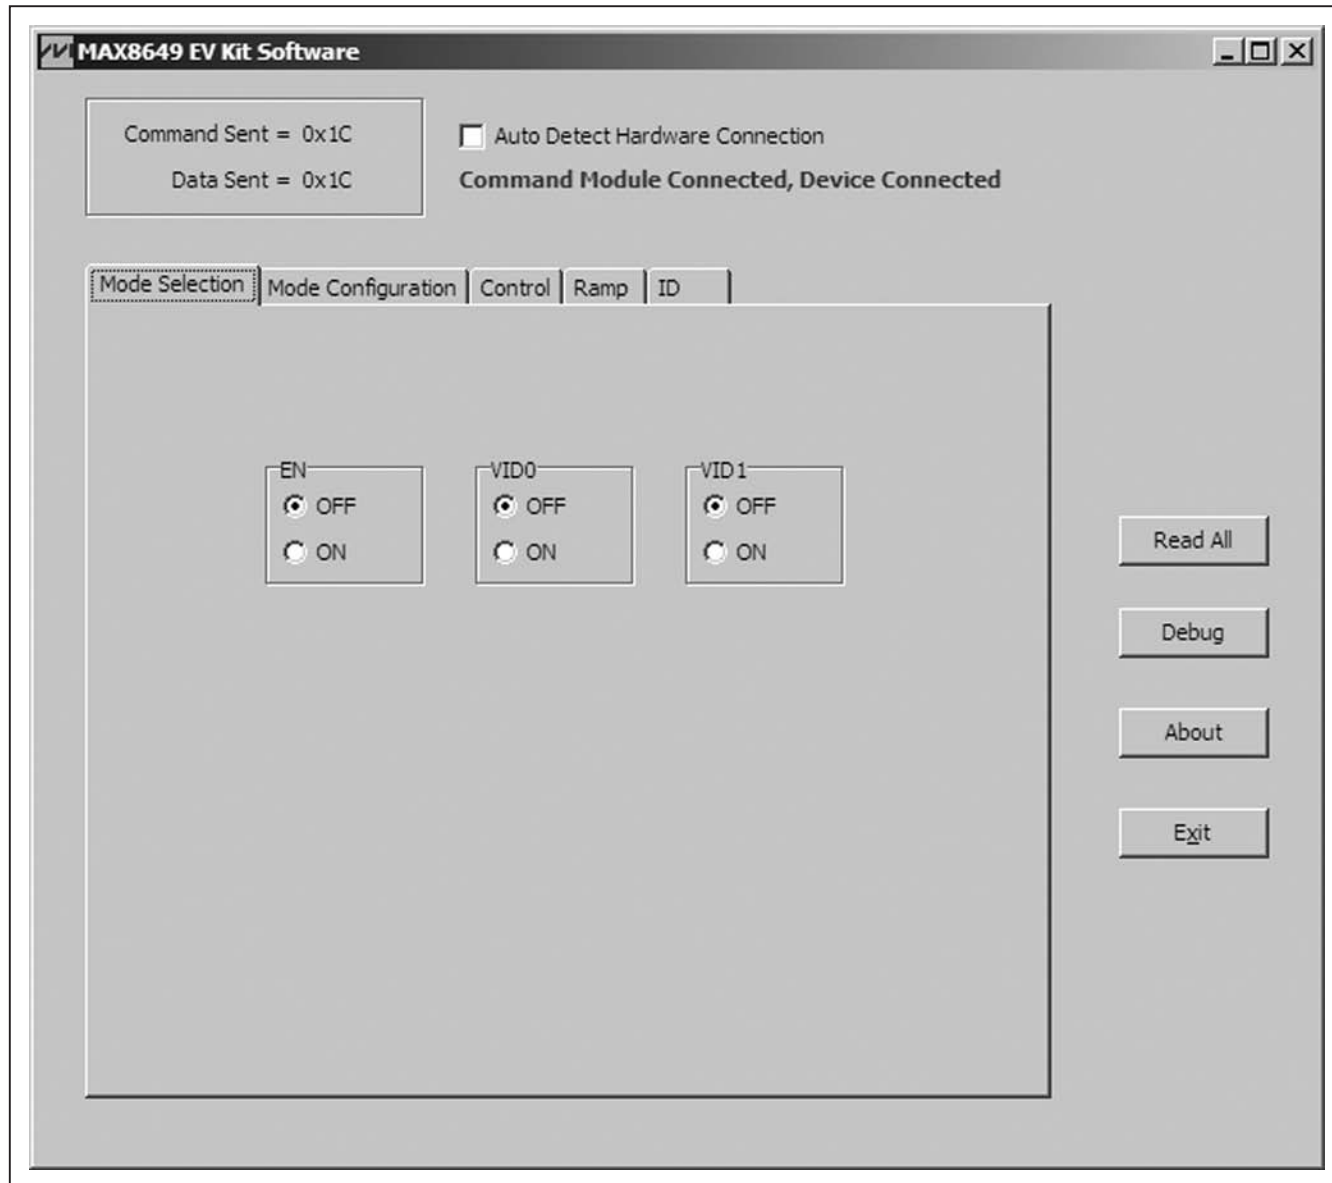
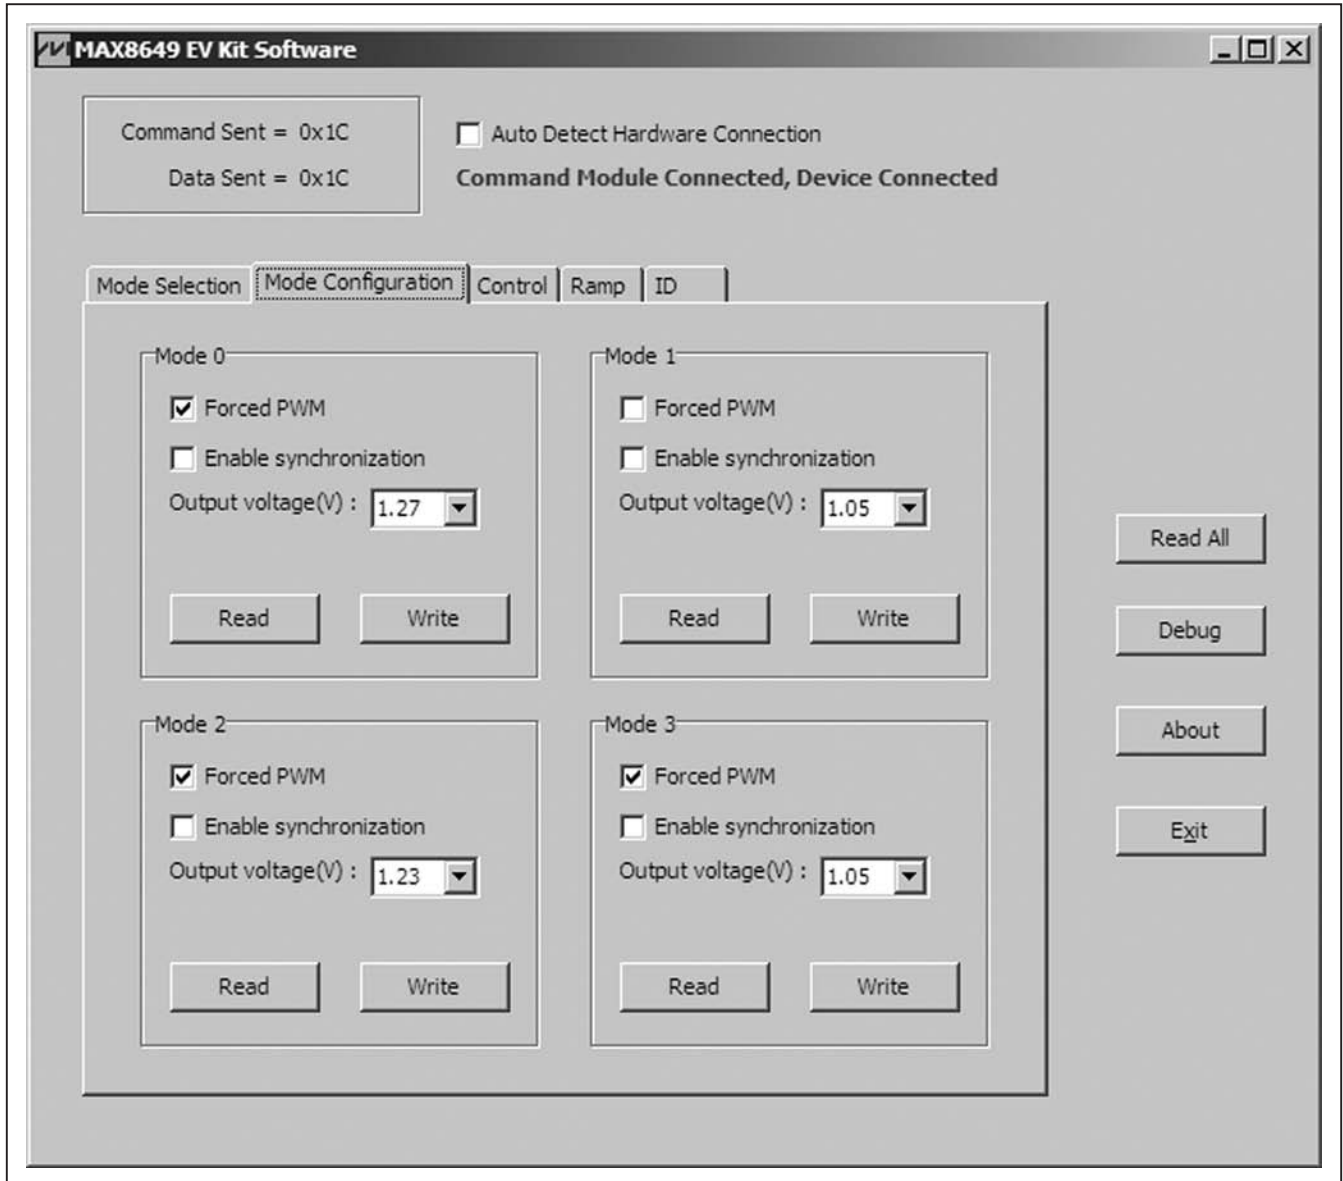
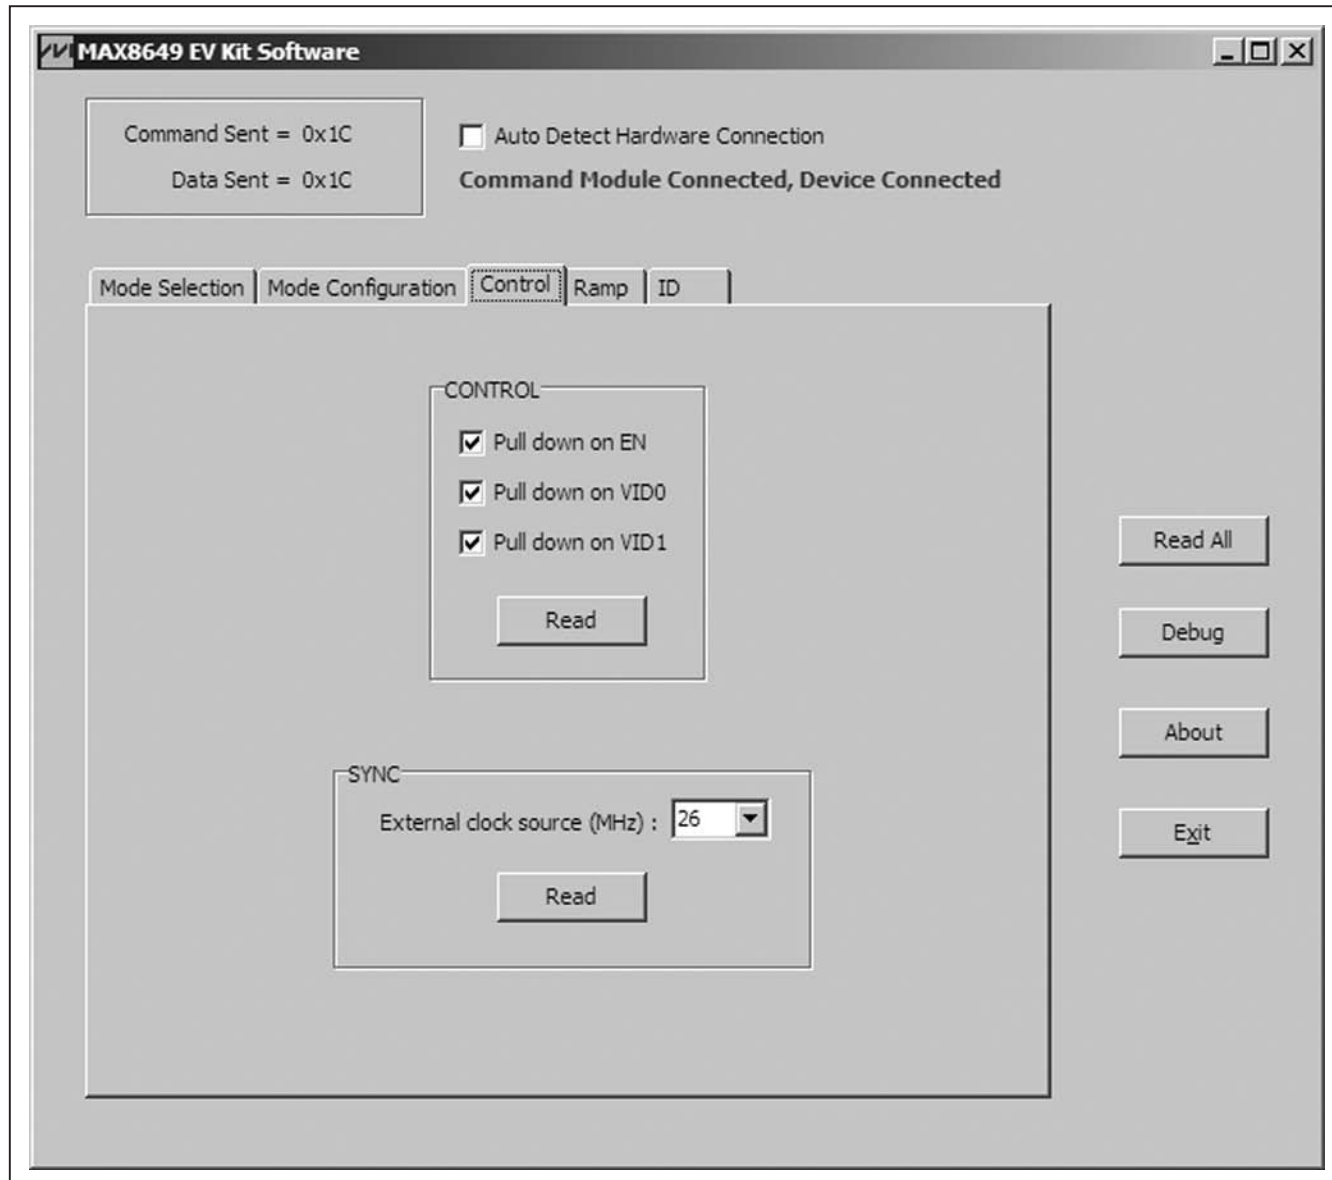

Figure 1. MAX8649 Evaluation Kit Software Main Window (Mode Selection Tab)
Figure 2. MAX8649 Evaluation Kit Software Main Window (Mode Configuration Tab)
Figure 3. MAX8649 Evaluation Kit Software Main Window (Control Tab)
- 1) In the EV kit software, select the **Mode Selection** tab and click on the **ON** radio button in the **EN** group box (Figure 1).
- 3) Select the **Mode Configuration** tab (Figure 2). In the **Mode 0** group box, select the desired output voltage from the **Output voltage(V)** drop-down list.
Jumpers JU1, JU2, and JU3 control the EN, VID0, and VID1 signals (see Table 1). When software control is selected by connecting pins 1-3 of these jumpers, the corresponding signals are controlled by the EV kit software (see Figure 1). Note that jumper JU6 connects power (from IN) to circuitry controlling the EN, VID0, and VID1 signals. JU6 must be connected when using the software to control these signals. When measuring quiescent current of the IC, JU6 should be removed and the EN, VID0, and VID1 signals set high or low with JU1, JU2, and JU3.
To evaluate the external synchronization feature of the IC, connect the signal source to J3 (FSYNC). Using the software, check the **Enable synchronization** checkbox and press the **Write** button in the appropriate **Mode** _ group box in the **Mode Configuration** tab (see Figure 2). Select the signal frequency from the **External clock source (MHz)** drop-down list in the **SYNC** group box in the software **Control** tab shown in Figure 3.
On startup, the software automatically tries to detect the MAX8649 EV kit. If the EV kit is not connected or not powered, **Command Module not found, keep trying to connect?** is displayed (Figure 3). Selecting **No** puts the software in demo mode, where all options can be viewed without communicating with the IC. To connect to the IC from demo mode, check the **Auto Detect Hardware Connection** checkbox. The software GUI is organized into five tabs: **Mode Selection**, **Mode Configuration**, **Control**, **Ramp**, and **ID** (Figures 1–5).
The **Mode Selection** tab sheet (Figure 1) controls the three digital inputs to the IC (EN, VID0, and VID1). To use the software to control these signals, jumper JU6 must be installed and pins 1-3 of jumpers JU1, JU2, and JU3 connected on the EV kit. Using JU1, JU2, and JU3 to set these signals high or low overrides the setting in the software. VID0 and VID1 set the mode used in the **Mode Configuration** tab. Set VID0 and VID1 to off for mode 0, VID0 on and VID1 off for mode 1, VID0 off and VID1 on for mode 2, or VID0 and VID1 on for mode 3.
The **Mode Configuration** tab sheet (Figure 2) controls the output voltage, forced PWM, and synchronization for each of the four VID modes. The active mode is set in the **Mode Selection** tab or with jumpers JU2 and JU3 on the EV kit.
The software **Control** tab sheet (Figure 3) provides controls to enable or disable the internal pulldown resistors on the digital inputs (EN, VID0, and VID1), and sets the frequency of the external clock (used when synchronization is selected in the **Mode Configuration** tab).